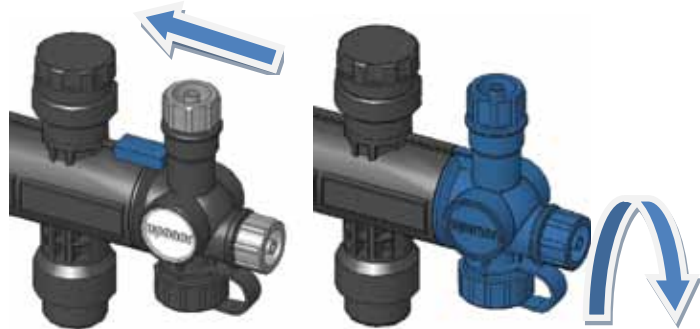

Figure 11-5: Remove End Caps
- a. There may be a small plastic clip that needs to slide out of the way so the cap will unthread (see **Figure 11-5**).